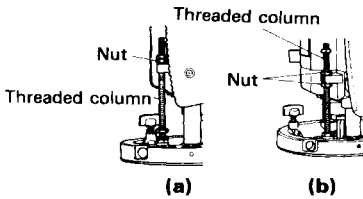

Fig. 9
- (7) As shown in Fig. 9 (a), loosening the two nuts on the threaded column and moving them down will allow you to move down to the end position of the bit when the lock lever was loosened. This is helpful when moving the router to align the bit with the cutting position. As shown in Fig. 9 (b), tighten the upper and lower nuts to secure the cutting depth.
- (8) When you are not using the scale to set the cutting depth, push up the stopper pole so that it is not in the way.